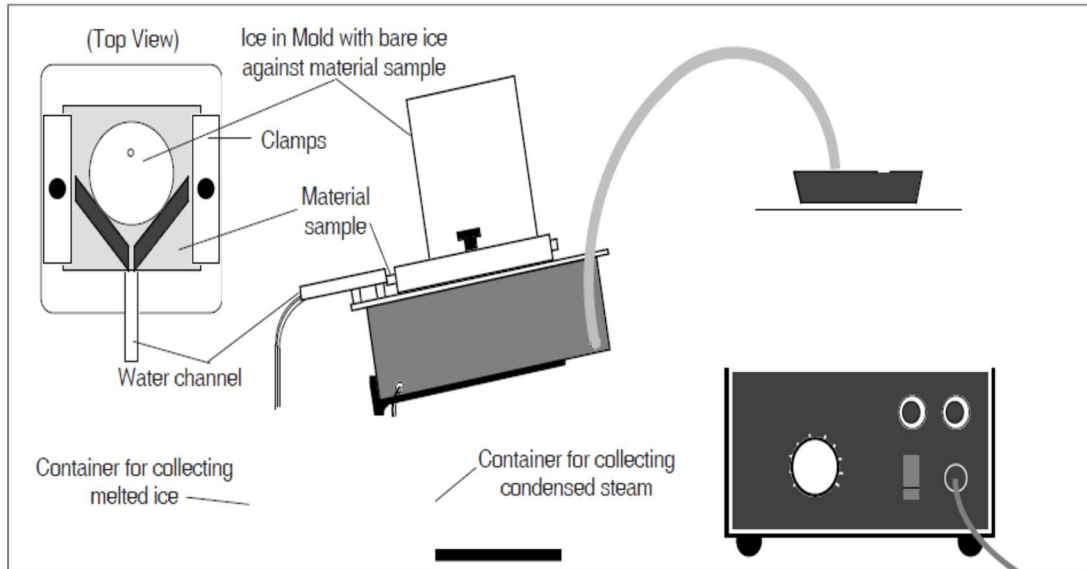

Figure 1: Thermal Conductivity experiment setup
2. Mount the sample material onto the steam chamber as shown in Figure 1. **NOTE: Take care that the sample material is flush against the water channel, so water will not leak, then tighten the thumbscrews. A bit of grease between the channel and the sample will help create a good seal.**
3. Measure the diameter of the ice block. Record this value as d_1 . Place the ice on top of the sample as shown in Figure 1. Do not remove the ice but make sure that the ice can move freely in the mold. Just place the open end of the mold against the sample, and let the ice slide out as the experiment proceeds.